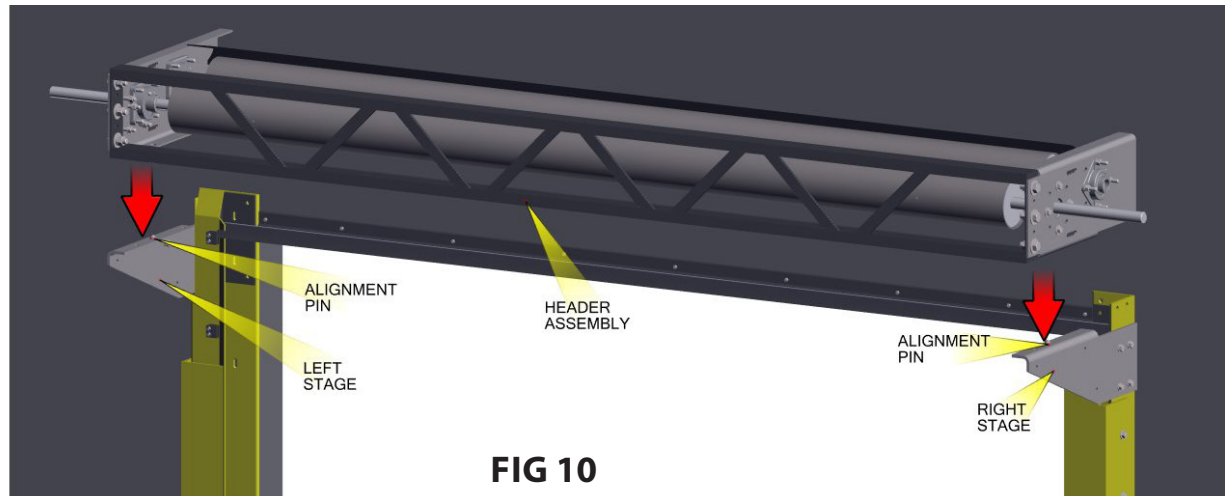
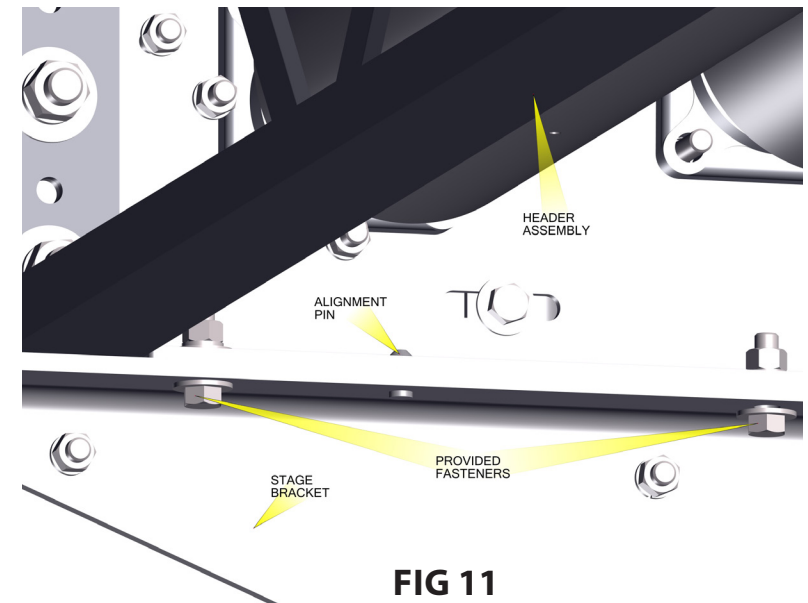

FIG 10
FIG 11
- Lift the header assembly using a fork lift or other appropriate lifting equipment and lower it onto the stage brackets as shown in **FIG 10** and **FIG 11**.
- Be sure the stage pins slide into the holes in the headplate. See **FIG 11**. These pins will align and center the header assembly.